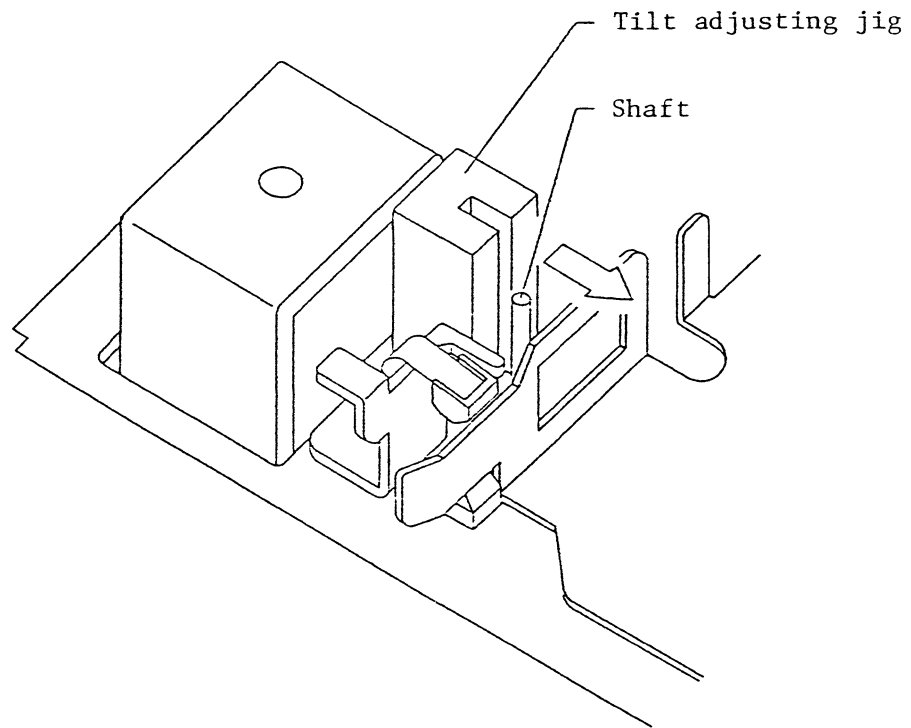

Fig.445 Setting of tilt adjusting jig
- (i) Insert the tilt adjusting jig into the encoder shaft by sliding it (Fig. 445).